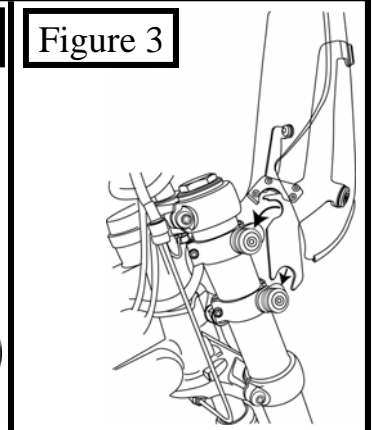

Figure 3
5. Slip the windshield mounting plates and windshield onto the fork clamps, (see figure 3 and 5) and secure the left and right side locking mechanism